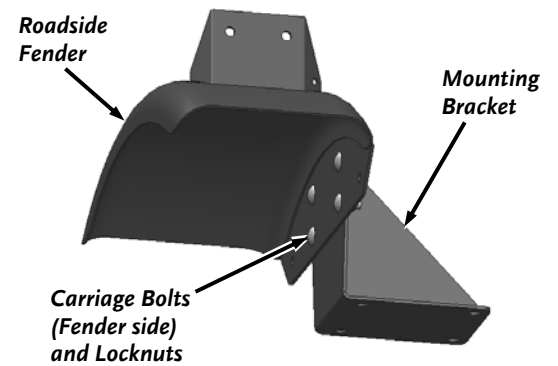

Figure 41
1. Assemble the Mounting Bracket and Roadside Fender with four 5/16-18 x 3/4" Carriage Bolts and Locknuts using a 1/2" Wrench (**Figure 41**).